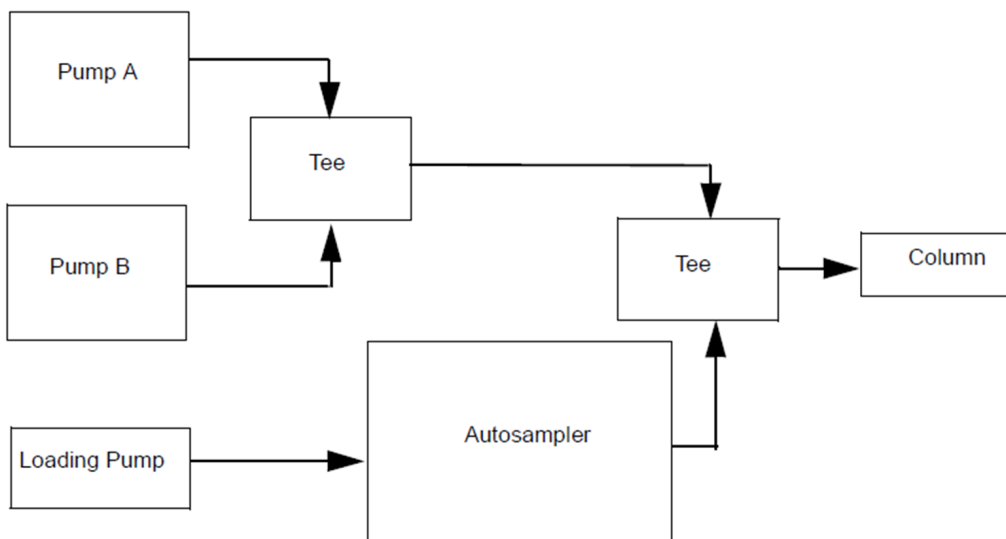
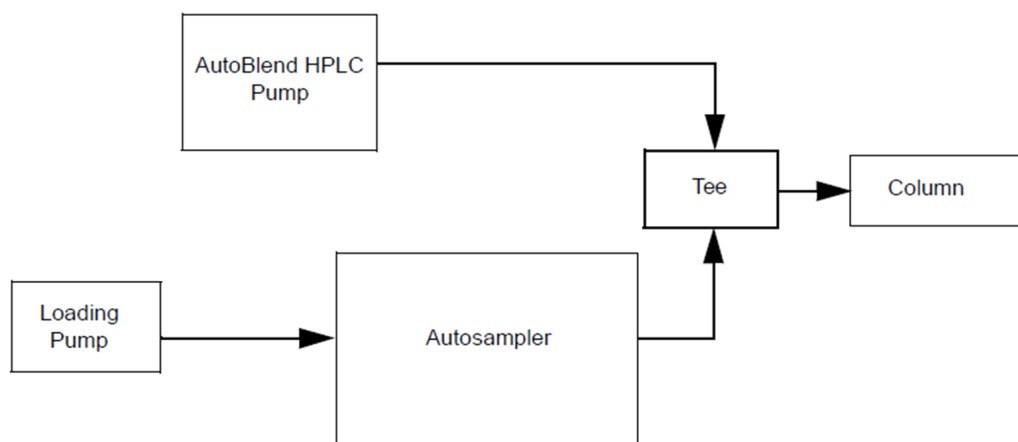

Figure 4. At-Column Dilution with a binary (high-pressure mixing) system and a loading pump.
Figure 5. At-Column Dilution with a system using Auto-Blend Plus Technology (low-pressure mixing) and a loading pump.
- Adding a loading pump to the system as shown in Figure 4 and Figure 5. You can use this approach with a binary gradient (high-pressure mixing) or with a system utilizing Auto•Blend Plus™ Technology (low-pressure mixing). Binary systems include Waters 1525 $\mu$ , 1525EF, and 2545 BGM solvent delivery systems. Auto•Blend Plus Technology-based systems include the Waters ACQUITY™ H-Class PLUS, ACQUITY Arc™, 25X5 QGM, and 2695 solvent delivery systems. The loading pump must deliver solvent against the full system backpressure with the same accuracy and precision of flow as the rest of the system. The loading pump also contributes to the total flow and solvent composition affecting the separation. The most common loading pump is the Waters 515 pump controlled by MassLynx™ Software through a pump control module.